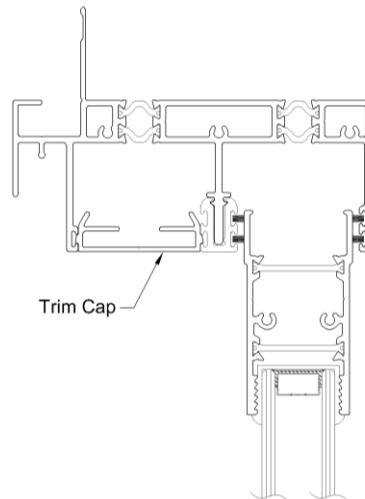

Figure 13b
21. Install the trim cap that is the same length as the threshold into the exterior track head shown in figure 13b.